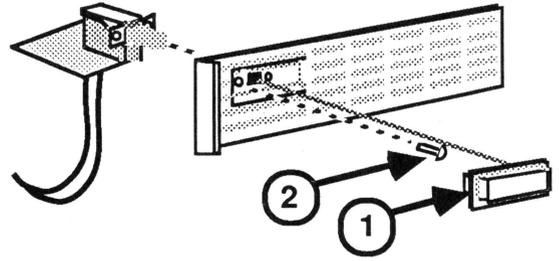

FIGURE 13
- a. Pull the switch button* (Figure 13, #1) off its shaft.
- b. Remove the screw* (Figure 13, #2) which secures the on/off switch to the plastic bracket.*